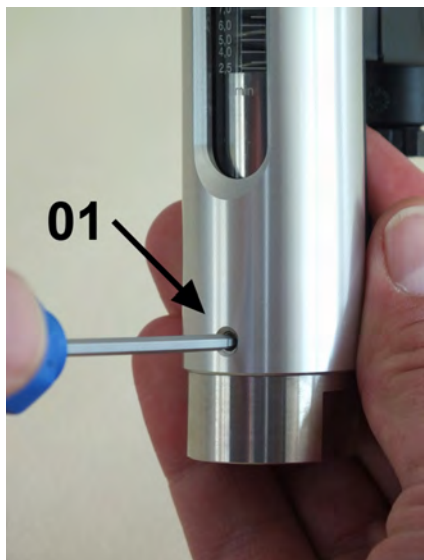

Fig. 37: Loosen screws
- 3.** ➤ Secure the device with one hand to ensure the sight glass does not slip out. With the other hand, loosen the lower 3 hex head screws (Fig. 37/01).